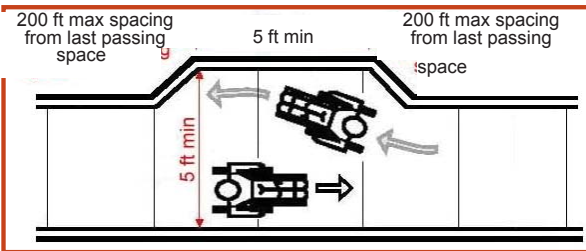

Figure 5 Passing Space
- When it is not possible to maintain a width of five feet, provide a 60 x 60-inch passing space at least every 200 feet to allow individuals in wheelchairs to pass. (See Figure 5 below.)